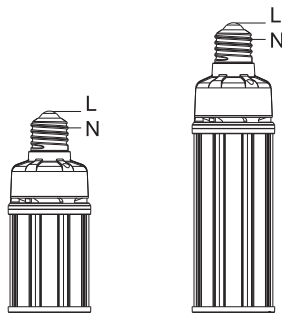

Figure 1
- 1) Remove existing CFL or MH lamp, see Figures 1 and 2